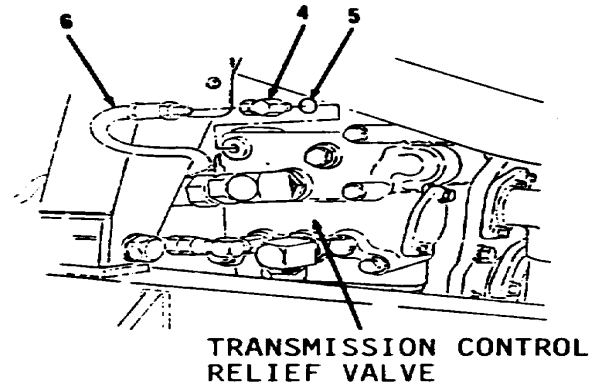
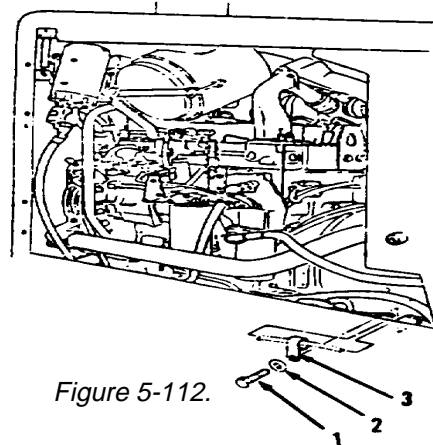

Figure 5-113.
Figure 5-112.
10. Install new preformed packing (5) and elbow (4, Figure 5-113) to left side of upper transmission housing.
11. Connect hose assembly (6).
12. Install clip (3), washer (2) and bolt (1, Figure 5-112).